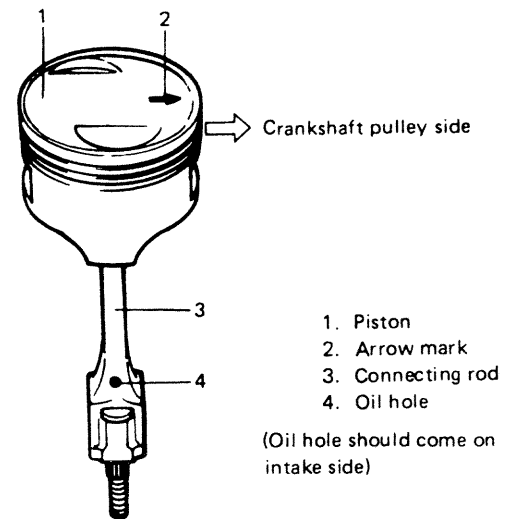

Fig. 3-6-12 Fitting connecting rod to piston
- ① After applying engine oil to piston pin holes in piston and connecting rod, fit connecting rod to piston as prescribed in Fig. 3-6-12.